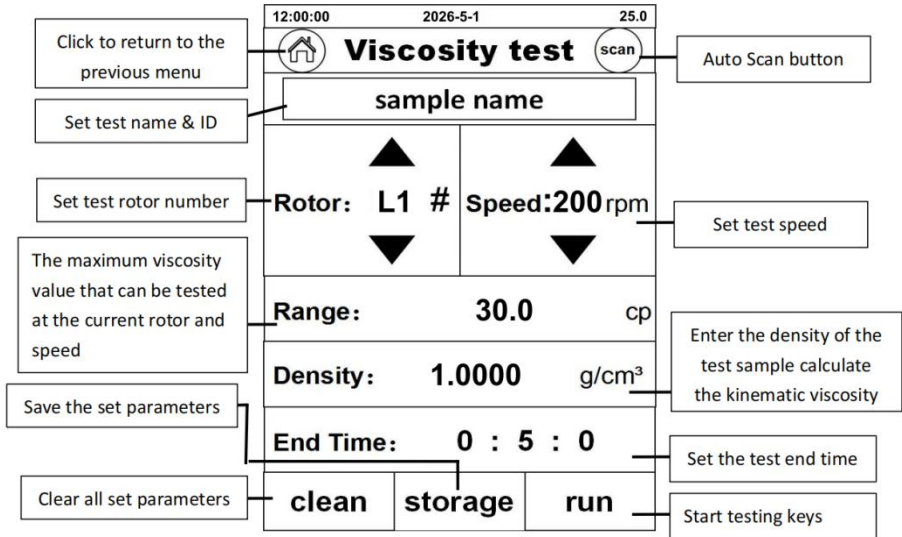

Fig. 7
1) Click "Viscosity Test" to enter the test interface(Fig.7).